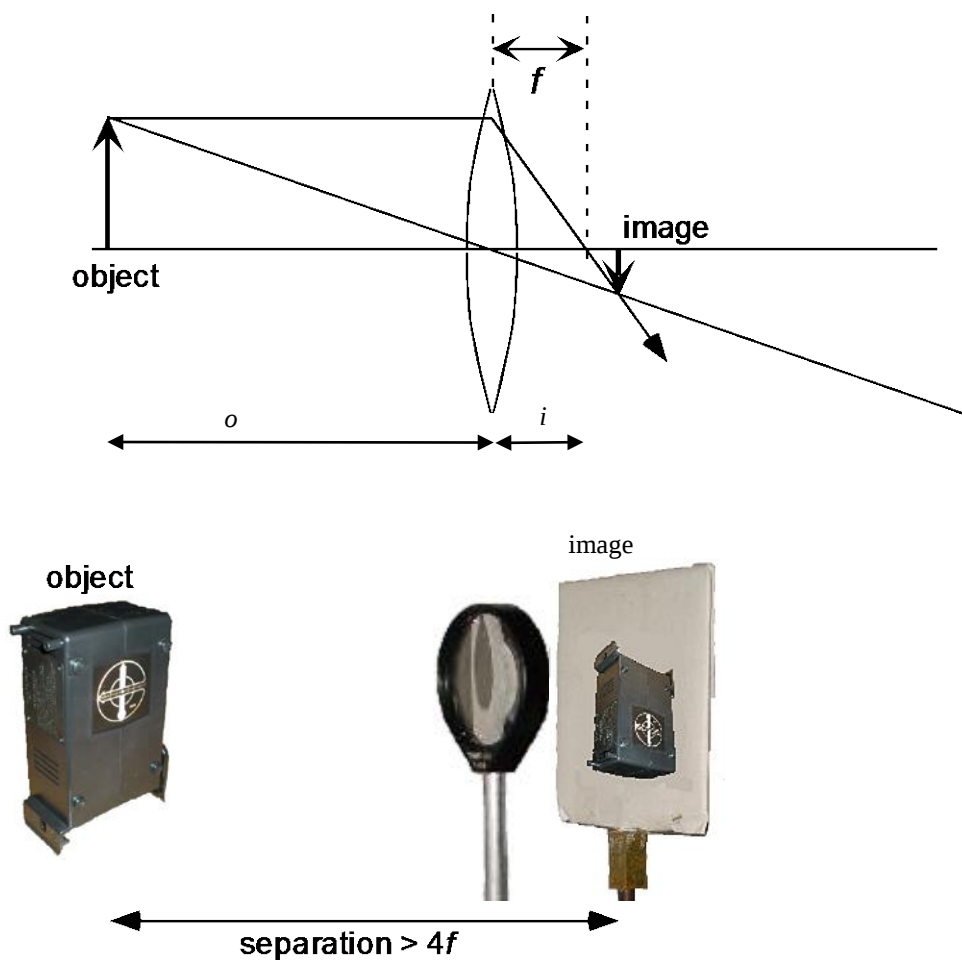

Figure 13.10. Setup for Part I, #2.
- Position the screen a distance $>4f$ from the object, using the value for f that you found in procedure 1. See Figure 13.10. (Hint: Position the object box at a position with a round number to make subtraction easier.)